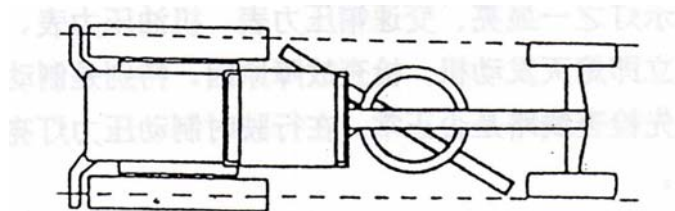

Fig.29
3. Set articulated steering. Front and rear wheels must be in line (See Fig.29);